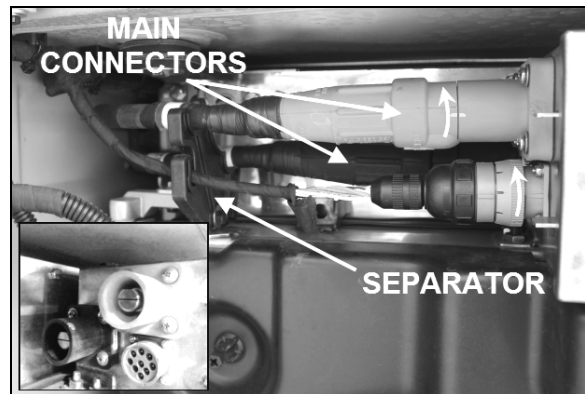

FIGURE 25: CIRCUIT BREAKER BOX CONNECTIONS
- Disconnect the cooling fans circuit breaker box (Figure 25).